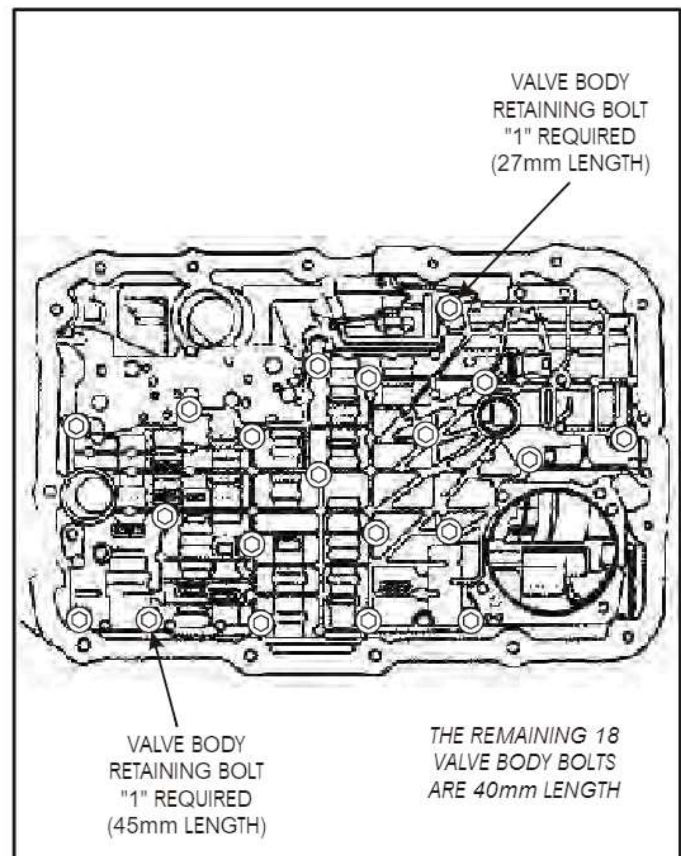

Figure 173
70. Install the 27mm length bolt finger tight only, in the location shown in Figure 173.
71. Install the 45mm length bolt finger tight only, in the location shown in Figure 173.
72. Install the remaining 18, 40mm length valve body bolts, in locations shown in Figure 173, and finger tighten only at this time.